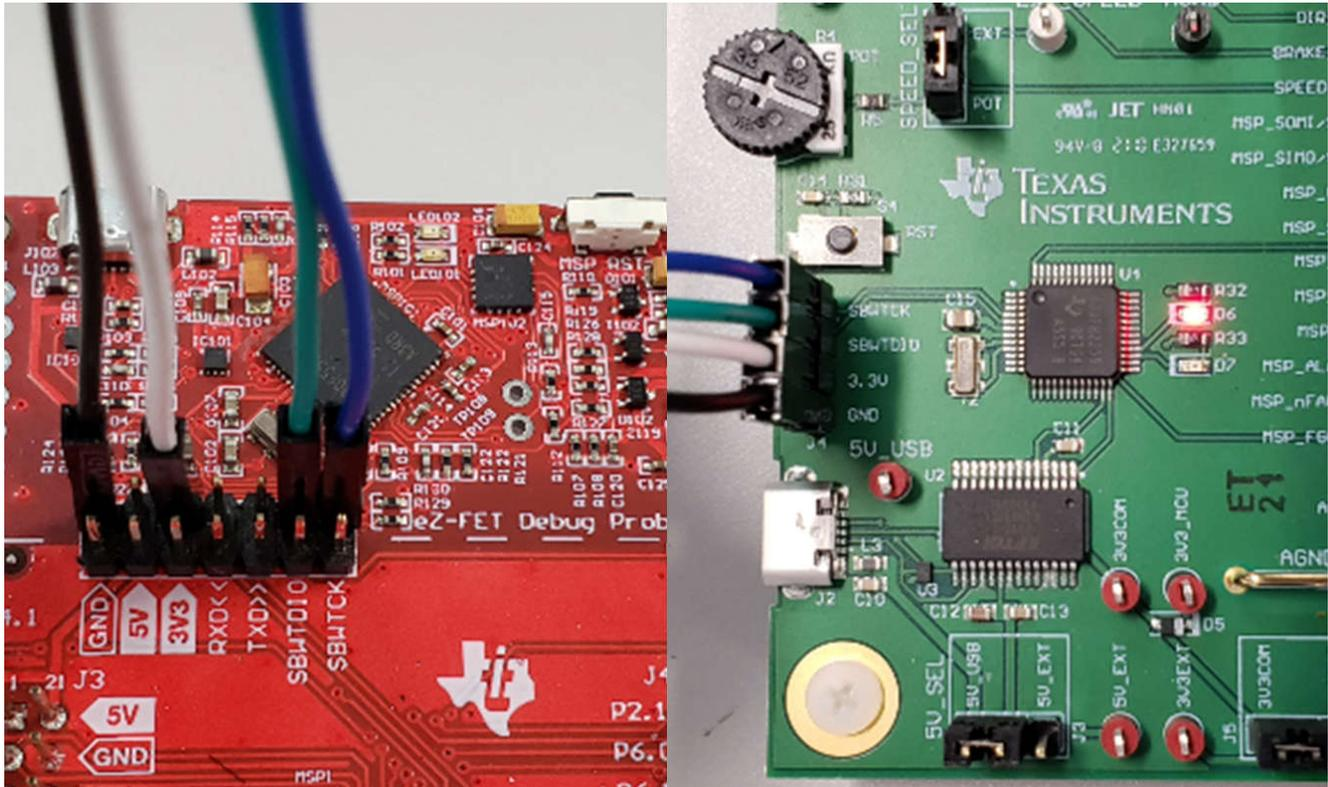

Figure 3-3. MSP430 LaunchPad™ eZ-FET Probe Connected to MCF8315PWPEVM
- Connect the top pins on the eZ-FET side of the LaunchPad of the GND, 3V3, SBWTDIO, and SBWTCK signals to their respective pins on J4 of the MCF8315PWPEVM as shown in Table 3-1 and Figure 3-3.